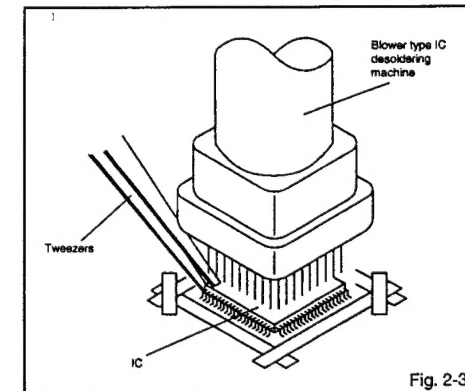

Fig. 2-3
3. When IC starts moving back and forth easily after desoldering completely, pickup the corner of the IC using a tweezers and remove the IC by moving with the IC desoldering machine. (Refer to Fig. 2-3.)